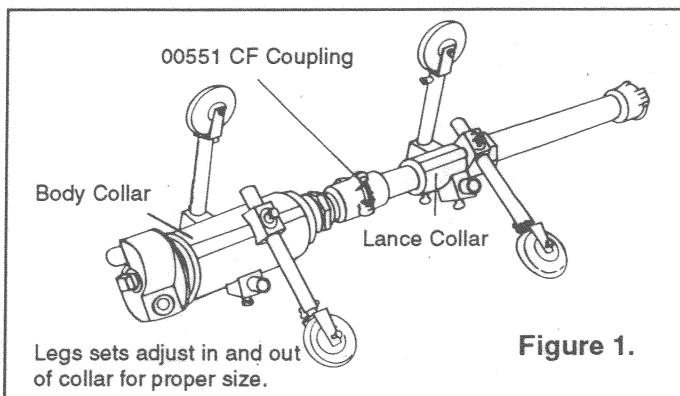

Figure 1.
2.2 Large Centering Carriage: (For 12" to 36" I.D. pipe) The large carriage (Figure 1) consists of two cast collars, 6 wheels and three leg sets (6 each).